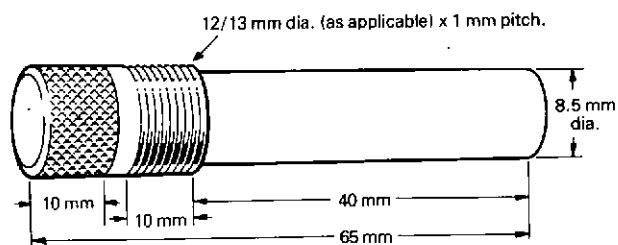
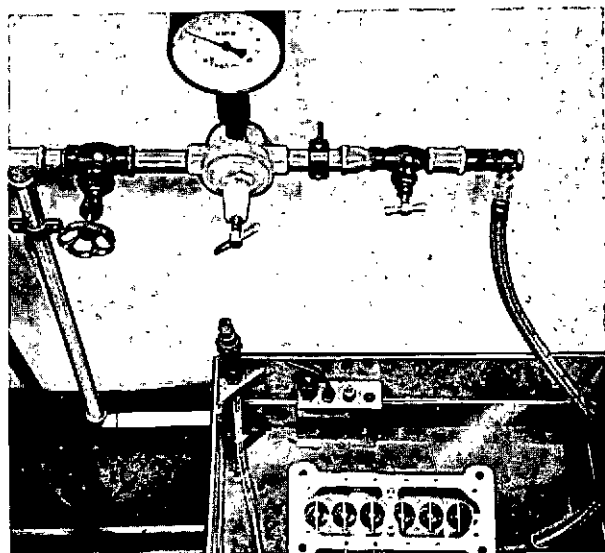

Fig. 29 Plunger retaining pin for pressure test.
Fig. 30 Pressure test.
6. Invert the pump, dip the plungers in clean fuel oil and fit them to their respective barrels, using pliers 0 681 340 003. Secure them by screwing eight retaining pins (locally made from mild steel to the dimensions in fig. 29) into the tappet holder holes. Remove the pump from its mounting rig, connect an air-line to the fuel inlet gallery and blank off the spill connection. Immerse the pump, upside down, in fuel oil and admit air at 242 kN/sq. m (35 lbf./sq. inch) to the inlet gallery (fig. 30). There must be no leakage from the casting or pump barrels; this is most important, since any internal leakage (e.g. from damaged seals) can result in fuel oil entering the engine lubrication system via the injection pump. Small white bubbles at the plungers and delivery pipe connections may be disregarded.